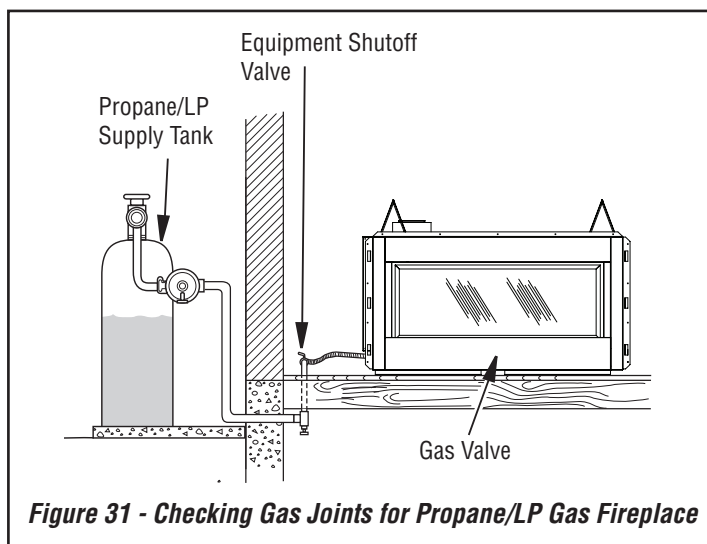
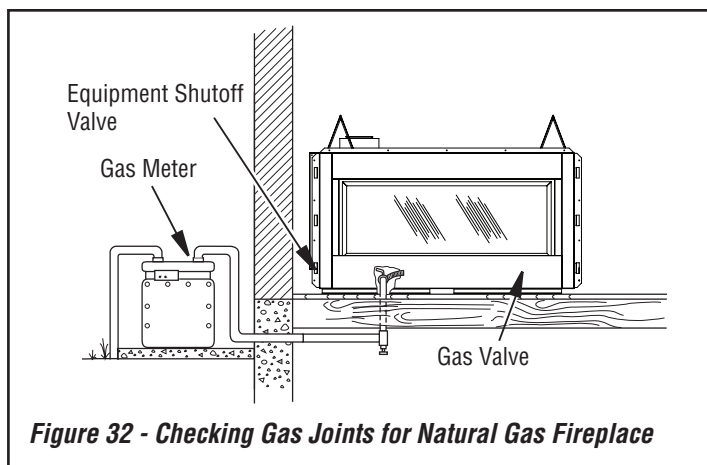

Figure 31 - Checking Gas Joints for Propane/LP Gas Fireplace
Figure 32 - Checking Gas Joints for Natural Gas Fireplace
3. Check all joints from propane/LP supply tank or gas meter to equipment shutoff valve (*see Figure 31 or Figure 32*). Apply noncorrosive leak detection fluid to all joints. Bubbles forming show a leak.
4. Check all joints from equipment shutoff valve to gas valve (*see Figure 31 or Figure 32*). Apply noncorrosive leak detection fluid to all joints. Bubbles forming show a leak. Correct all leaks at once.